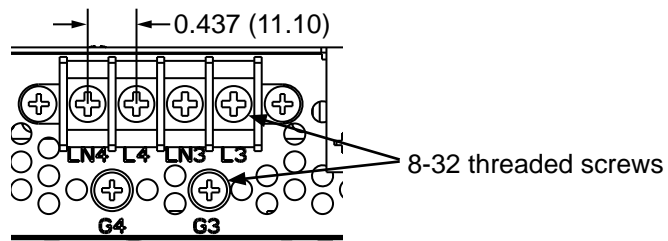

Figure 12 - AC Screw Terminal Detail
- 17.2 Input Power Connections** - Depending on the exact model AC input power connections are made to the IEC60320-C20 or Terminal Blocks mounted at the rear of the power shelf. Each module position has its own input connector or terminals. For models incorporating IEC60320-C20 connectors UNIPOWER can supply various line cords; see the current datasheet for details. For models with Terminal Block connections a 3-wire connection is required for each module position that is to be used. The minimum suitable cable size for these connections is 14AWG or equivalent. It is recommended that each input feed is protected by its own circuit breaker. When using the version with Terminal Blocks the supplied safety covers should be fitted. The terminal block connections are #8-32 threaded screws with a 0.437" spacing, see figure 12 below.